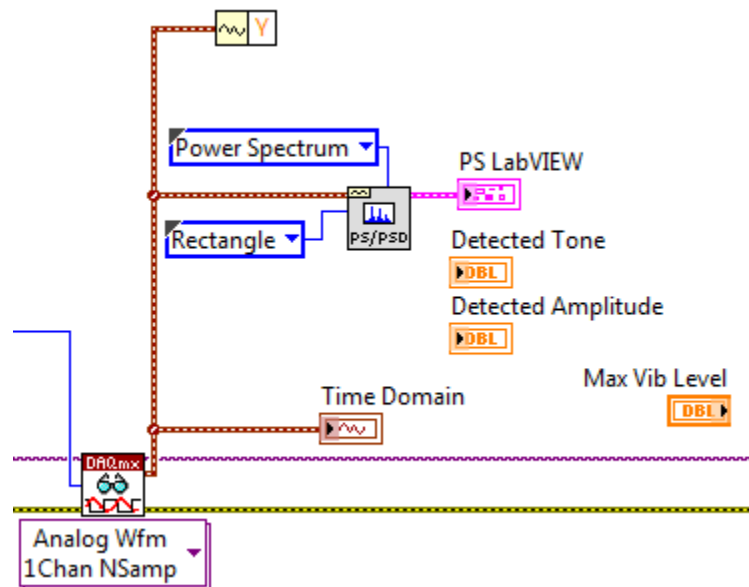

Figure 33. The power spectrum will be calculated each time the loop in the code runs.
4. Wire the inputs to the VI as seen in Figure 33.